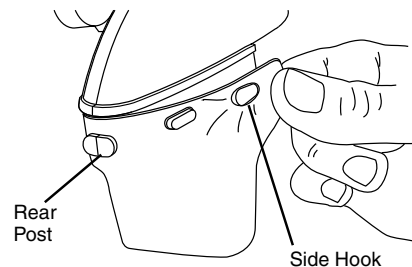

Figure 10. Attaching Rubber Deflector on Side Hooks
**Attaching Deflector** – Start by stretching and hooking the deflector over the rear post, followed by hooking over each side hook (see Figure 10).